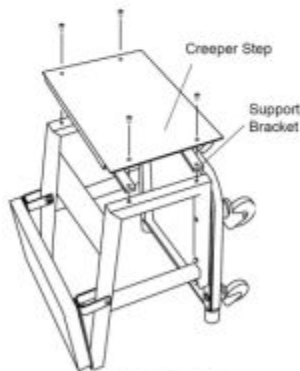

Figure 4 - Attaching Step to Side Frames
4. Fasten Creeper Step to Side Frames using four M6 x 20 Phillips Head Screws (Fig 4), ensure that the Support Brackets are installed between the Creeper Step and Side Frames.